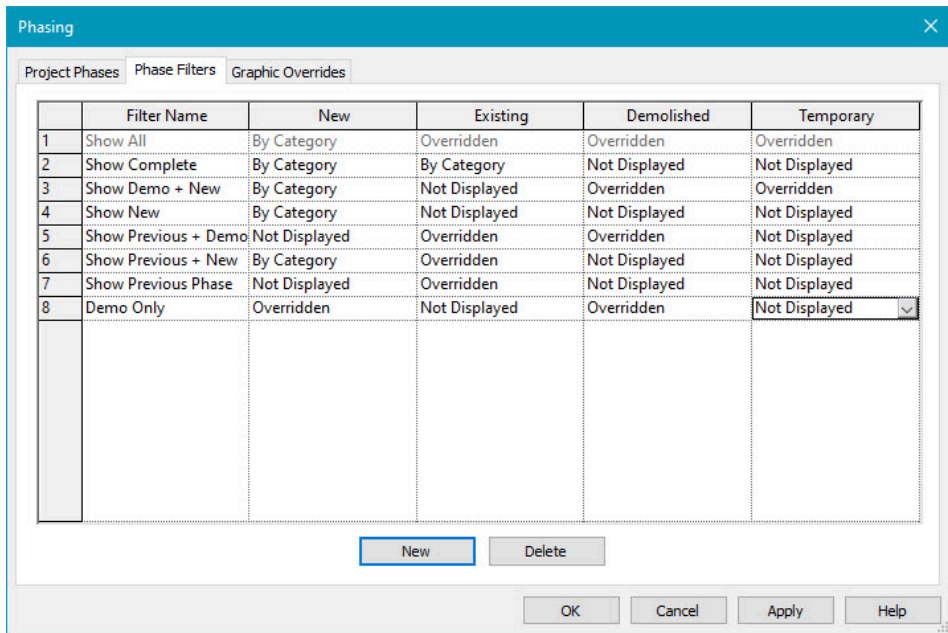

Figure 12.8 Phase filters in the Phasing window
9. Change the following parameters, see Figure 12.8